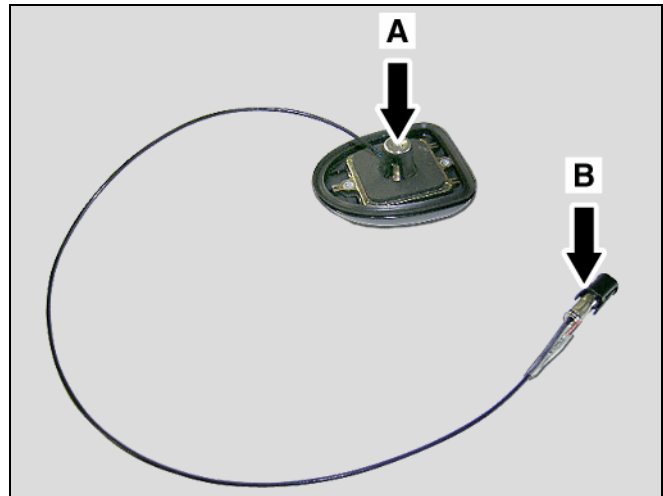

Figure 2
1. Loosen the T25 Torx screw (A, Figure 2) in the antenna sleeve.
2. Feed the antenna lead (B, Figure 2), from the top side of the trunk lid, through the 14 mm hole.
6. Tighten, but do not over tighten, the T25 Torx screw (A, Figure 2) in the SDARS antenna sleeve while holding the antenna from above to prevent it from turning.